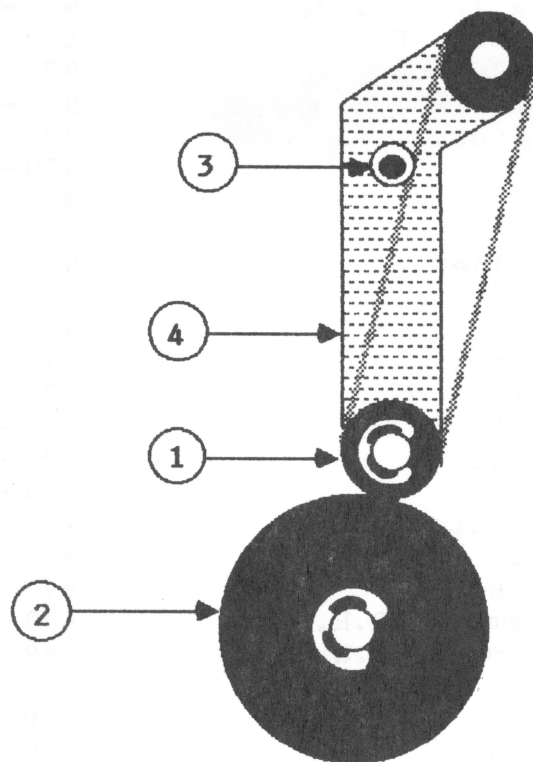

FIGURE 3
4. Remove the E-ring and the black plastic washer from the lower drive-belt gear (Figure 3, #1)
A new timing belt should be adjusted so that there is neither binding nor backlash: that is, the gears that drive the belt (Figure 3, #1 and 2) should turn easily but without any appreciable free play between their teeth. This adjustment should also be performed if any Forms Tractor shows symptoms of binding or backlash such as uneven line feeding (poor vertical registration) or failure to advance paper.
2. Using a 1/4-inch wrench, loosen the nut on the sliding arm under the timing belt (Figure 3, #3).